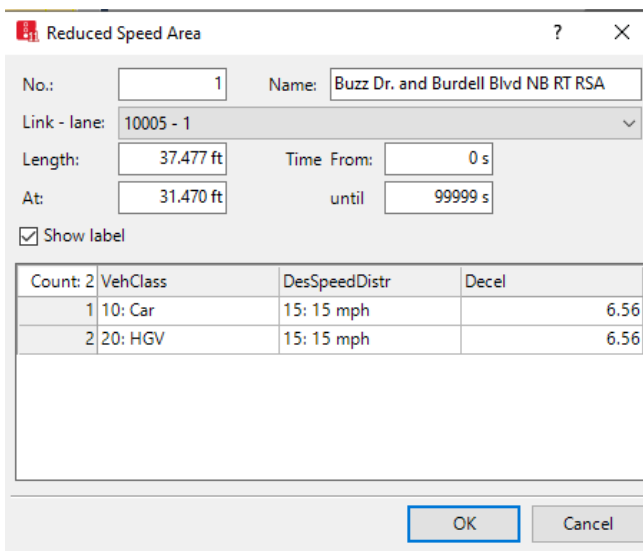

Figure 21: Buzz Blvd and Burdell Dr. NB right turn Reduced Speed Area pop-Up Window
- step vi. Add: *VehClass* to 10 Car and the *DesSpeedDistr* to 15 mph, Figure 21.
- step vii. Add: *VehClass* to 20 HGV and the *DesSpeedDistr* to 15 mph, Figure 21.